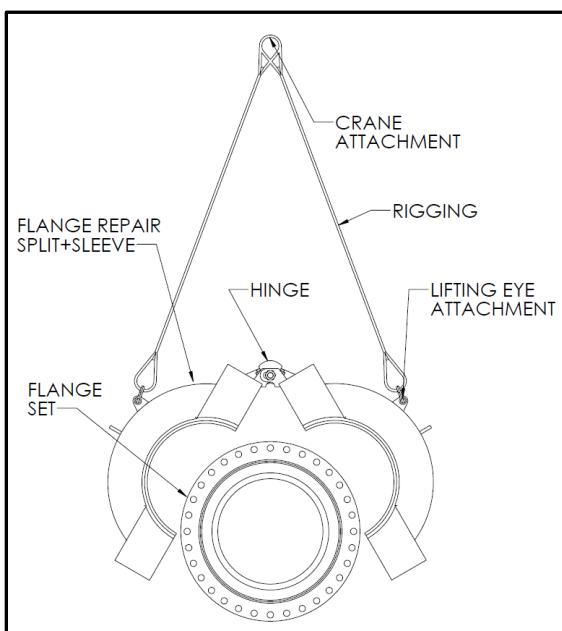

Figure 8
3. Attach properly sized rigging such as chains, cables, or straps to a single point crane attachment. The rigging should be sufficiently long enough that the rigging doesn't interfere with opening and closing of the fitting as shown in Figure 8.
4. Lift the fitting up from the single point crane attachment. The Flange Repair Split+Sleeve will open up as shown in Figure 8.
5. Position the fitting over the pipeline and slowly lower the fitting onto the pipeline as shown in Figure 8. The inside of the fitting should come in contact with the pipeline, and the fitting will start to close as it is lowered. Some fittings may require some additional side force to close the fitting around the pipe. Keep all body parts clear of the inside of the fitting at all times as the fitting is being lowered onto the pipe. This is to ensure safety in the event the that the fitting slams closed rapidly.